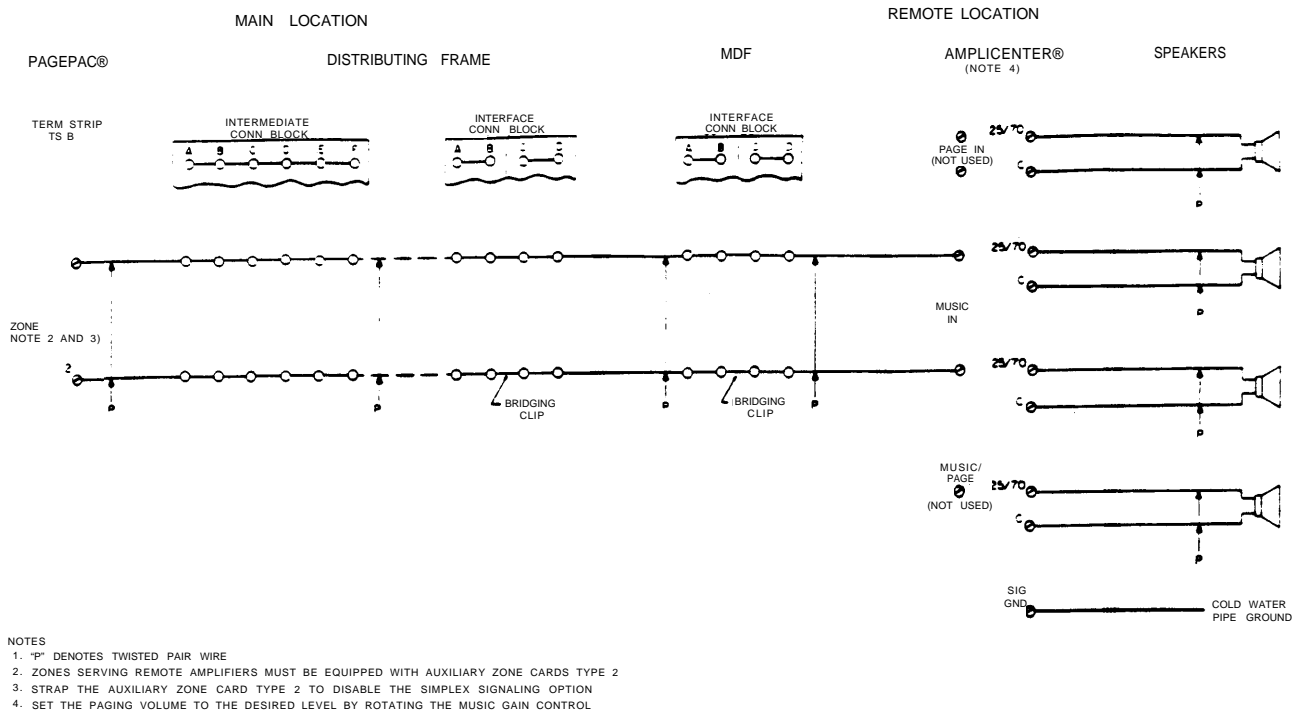

Fig. 25—Off-Premise Amplifier Connections without Simplex Signaling
4.24 Auxiliary Zone Card Type 2 provides four separate paging outputs for connection to off-premise or auxiliary amplifiers. Resistors in the type 2 card drop the output level to 0 dB and provide a 600-ohm output impedance for connection to a telephone line to an off-premise location. The amplifier music inputs are connected to the zone outputs, and the amplifiers are in the music mode at all times. Both the background music and the paging message are transmitted over the telephone line to the remote AmpliCenter . See Fig. 25.
5.11 *Off-Premise or Remote Amplifiers:* If off-premise or remote amplifiers are provided, perform the necessary connections per Fig. 25 or 26 using twisted-pair wire.